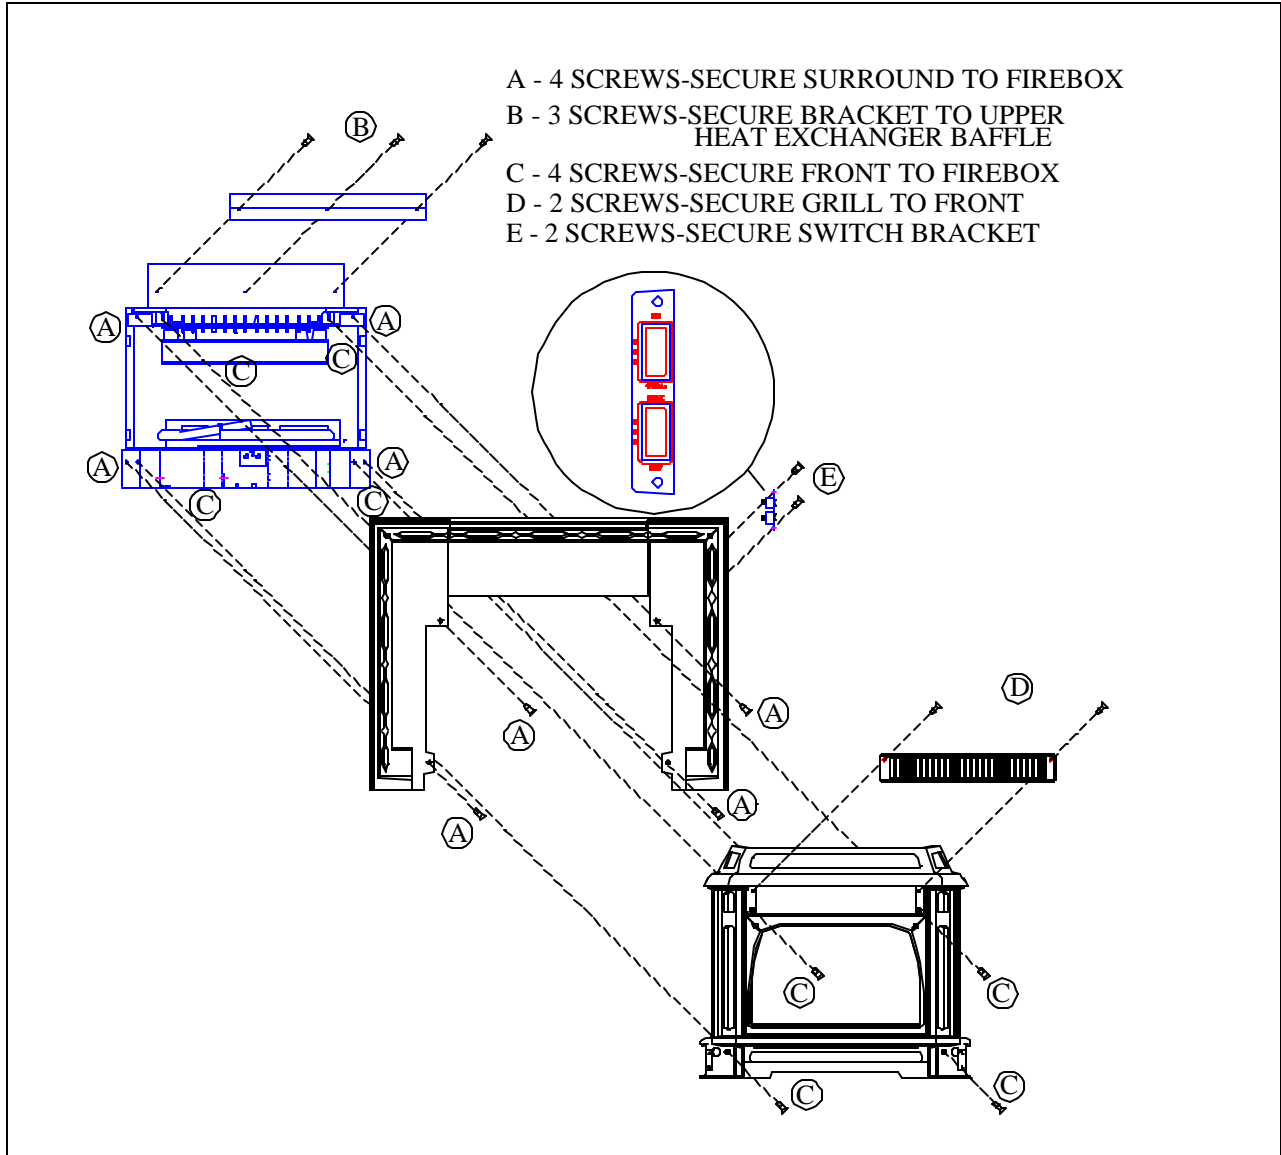

Figure 7: Assembly
- speed nuts located on the insert. (refer to Figure 7 for assembly).